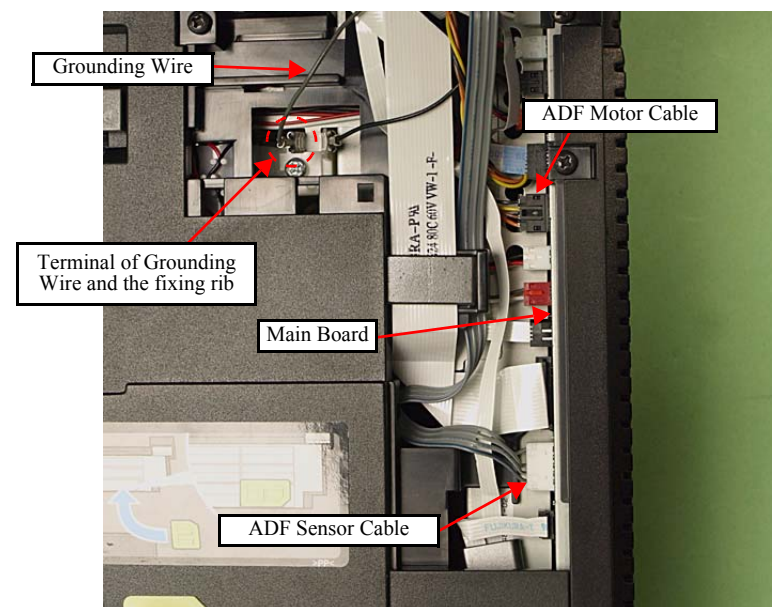

Figure 4-4. Removing the ADF Unit (1)
4. Disconnect the ADF Motor Cable and ADF Sensor Cable from the connectors on the Main Board. (See Fig. 4-4.)
- Insert the terminal of the Grounding Wire to the end of the rib of the Frame. (See Fig. 4-4.)